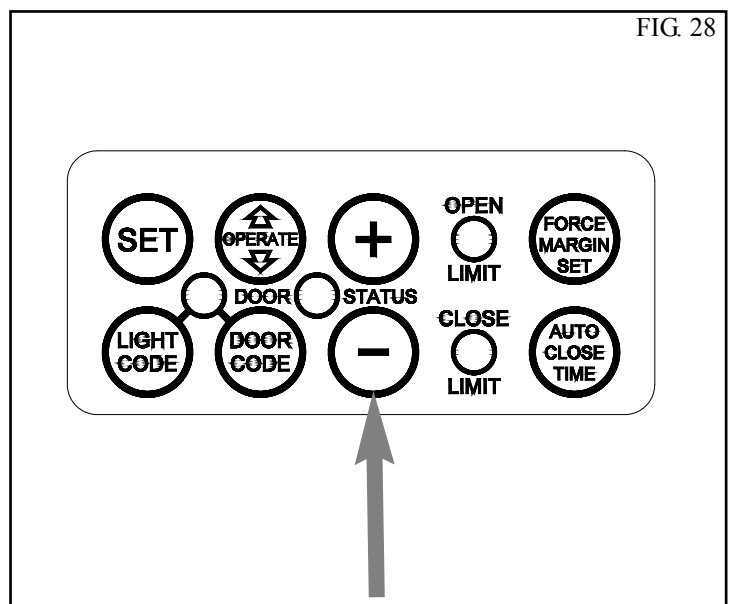

FIG. 28
1. Press and hold the (-) button (Fig. 28) for six (6) seconds until you hear three beeps and the red Close Limit LED starts to flash. Release the button.